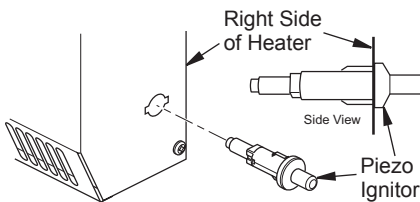

Figure 6 - Installing Piezo Ignitor
1. Locate ignitor in hardware bag. Determine if your heater is equipped with piezo ignitor or an electronic ignitor (see Figures 6 and 7, page 9).
2. **For Piezo Ignitor**, snap ignitor into hole located on right side of heater as shown in Figure 6, page 9.